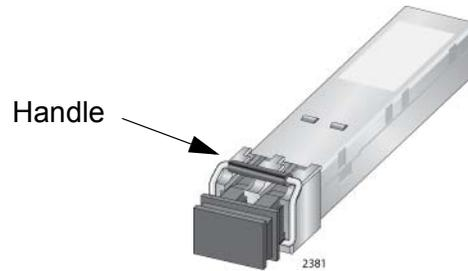

Figure 89. Handle on SFP+ Transceiver
2. Orient the SFP+ transceiver with the handle on top, as shown in Figure 89 on page 135.